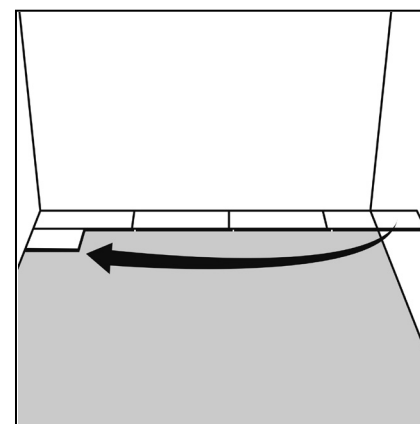

Figure 50 First plank, second row
- > Insert a spacer between the end of the first row and the wall (expansion gap). Start this new row with the leftover piece from the last row (min. length 350mm – Fig 50).